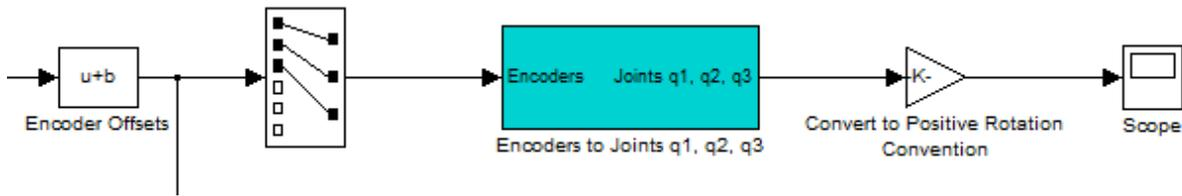

Figure 3.4: Orient joint angles
5. Insert a **Gain** block between the **Encoders to Joints q1, q2, q3** block and the **Scope**. Enter the gains you found in Question 3.4 as a 1×3 vector. The joint angle calculation should look as shown in Figure 3.4. Restart your model. The joints should now move according to positive orientation defined by D-H frames.